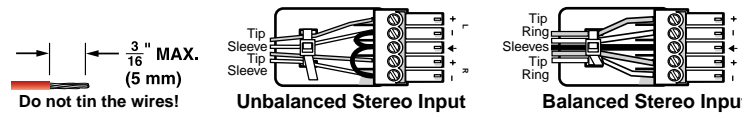
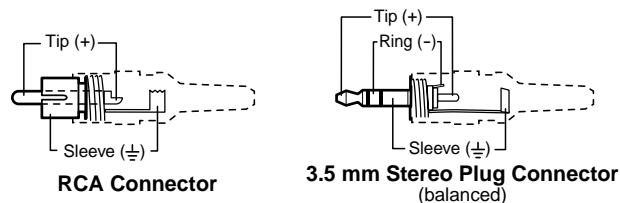
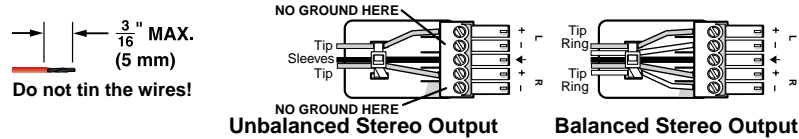

Figure 20. Captive Screw Connector Wiring for Audio Inputs
Figure 21. Typical Audio Connectors
Figure 22. Captive Screw Connector Wiring for Audio Output
- ④ **Connections for balanced and unbalanced audio inputs** — Each input has a 3.5 mm, 5-pole captive screw connector for balanced or unbalanced stereo audio input. Connectors are included with each switcher, but you must supply the audio cable. Figure 20 shows how to wire a connector for the appropriate input type. Use the supplied tie-wrap to strap the audio cable to the extended tail of the connector.
- See figure 21 to identify the tip, ring, and sleeve when you are making connections for the switcher from existing audio cables. A mono audio connector consists of the tip and sleeve. A stereo audio connector consists of the tip, ring and sleeve. The ring, tip, and sleeve wires are also shown on the captive screw audio connector diagrams, figure 20 and figure 22.
- ⑤ **Connections for balanced and unbalanced audio outputs** — These 3.5 mm, 5-pole captive screw connectors output the selected unamplified, line level audio. Connect audio devices, such as an audio amplifier or powered speakers. See figure 22 to properly wire an output connector. Use the supplied tie-wrap to strap the audio cable to the extended tail of the connector.